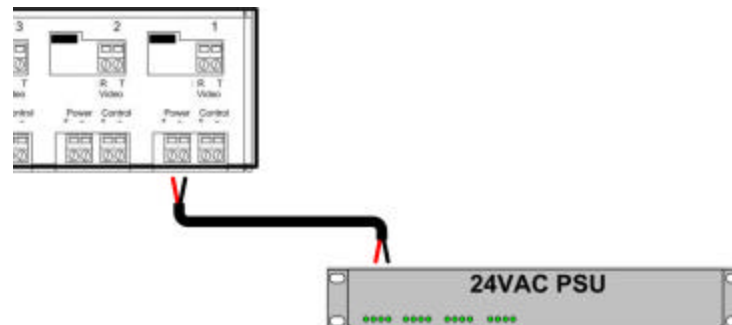

Figure 16: Remote power connection, Model IC563A
9. If remote power is being transmitted to the camera, verify that the distance between the camera and the hub is within Black Box specifications. Please consult the distance charts at the back of the installation guide. When the port switch is set to Pass-Thru Mode (IC452A), two (2) twisted pairs are used for remote power. When the port switch is set to Power-Thru Mode (IC560A/IC561A), three (3) twisted pairs are used for remote power thus supporting greater distance.
10. Connect two (2) wires between the power terminals of the hub to the remote low voltage power supply (fig 16). **It is recommended to use a Class II power supply with fuse protection on each output port.**